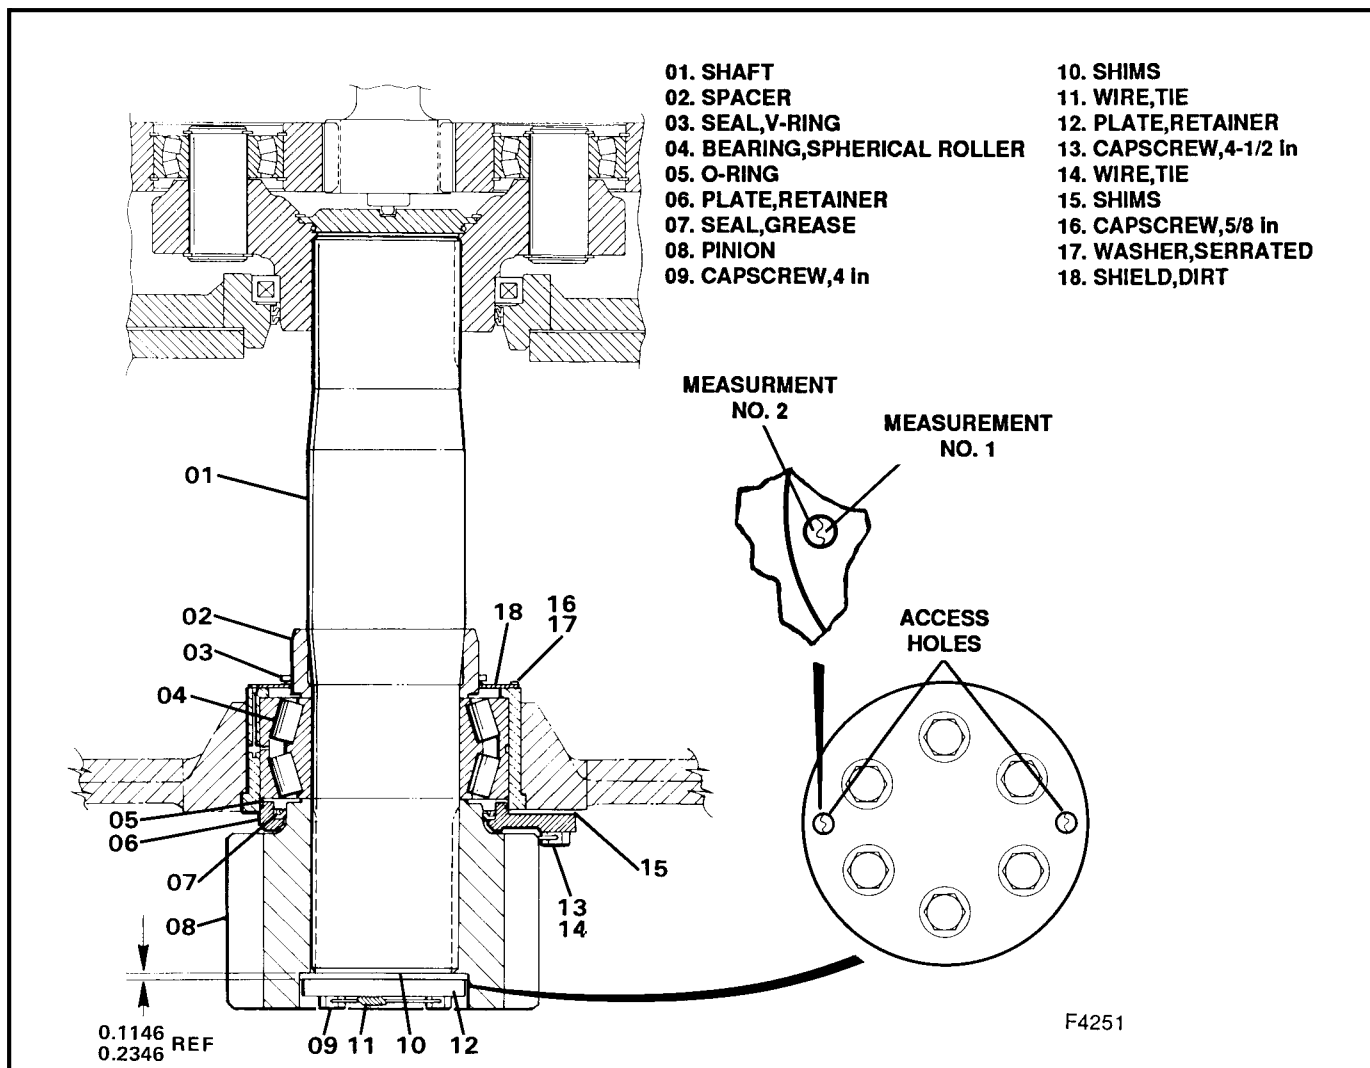

Figure 3-9. Swing Shaft (100J6145)
shovel. A swing shaft assembly consists of the shaft, pinion, bearing, bearing retainer, seal, and spacer (see Figure 3-9).
Refer to Figure 3-9 and remove a swing shaft as follows:
Disassemble a swing shaft assembly as follows (see Figure 3-9):
Refer to Figure 3-9 and assemble a swing shaft assembly as follows:
2. Preheat and install bearing (04) on shaft (01) against spacer (02).
3. Install O-ring (05) and seal (07) on retainer plate (06).
4. Install the assembled retainer plate (06) and pinion (08) on shaft (01).
5. Install retainer plate (12) and secure it in place with capscrews (09). Tighten the capscrews to 375 ft. lbs. (508 N.m) with no shims in place.
6. Calculate the gap between swing shaft (01) and retainer plate (12) by making two measurements with a depth micrometer, measuring through the two access holes in plate (12) to the end of swing shaft (01). The measurements are (see Figure 3-9):
A. The distance measured from the outer surface of plate (12) to the end of swing shaft (01).
B. Distance measured from the outer surface of plate (12) to the surface of pinion (08).
7. Subtract measurement A from measurement B. This is the gap between plate (12) and shaft (01).
8. Remove capscrews (09) and plate (12).
9. Install a shim pack equal to the measured gap minus 0.005 to 0.010 inch (.127 to .254mm) with plate (12) and capscrews (09).
10. Tighten capscrews (09) to 1365 ft. lbs. (1851 N.m) and secure them with lock wire (11).
Refer to Figure 3-9 and install a swing shaft as follows: